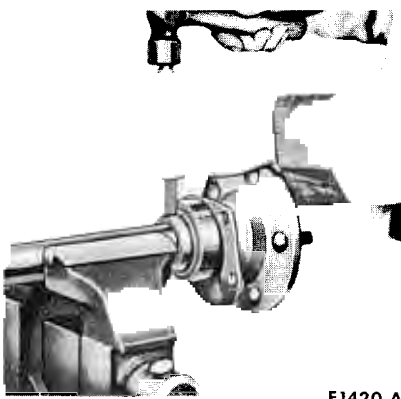

FIG. 6—Removing Rear Wheel Bearing Retainer Ring
4. If the rear wheel bearing is to be replaced, loosen the inner retainer nick by nicking it deeply with a cold chisel in several places (Fig. 6). It will then slide off easily.